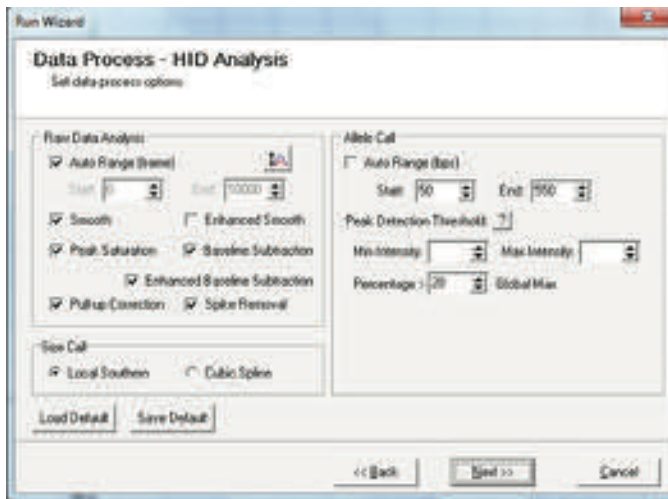

Figure 25. The Data Process window for an analysis method.
10. The Data Process window will appear (Figure 25). Choose settings based on your laboratory's standard operating procedures. Select full range or partial range for the analysis range. When using a partial range, choose an appropriate analysis range based on your data. For the allelic call range choose a start point before the first defined internal lane standard peak and an end point just beyond the last defined internal lane standard peak.